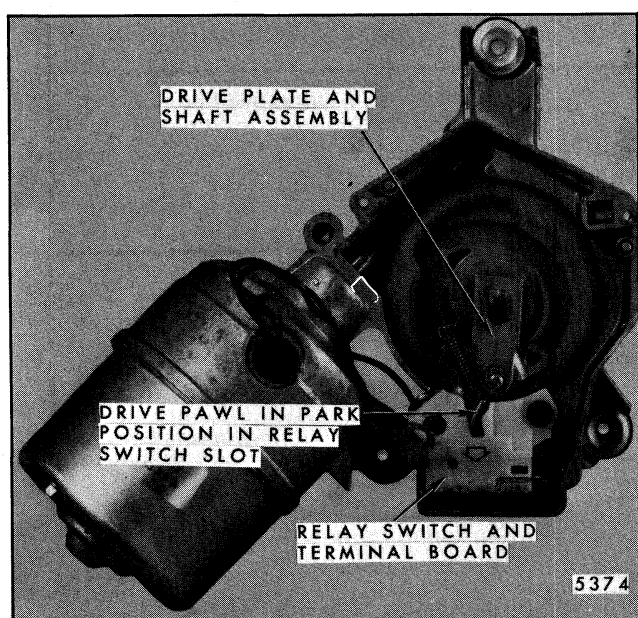

Fig. 2-28-Testing Relay Switch
- a. If gear mechanism is in full park position, insert a small screwdriver into the switch slot (between the drive pawl and the latch arm) and push latch arm downward and toward the relay switch coil in direction of the arrow in Figure 2-28. Next, remove a small amount of insulation from black lead with pink tracer and touch test lamp to exposed wire.